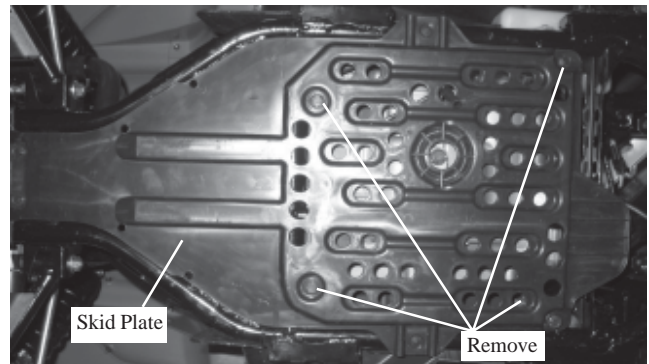

Figure 1
1. Remove the four skid plate bolts, Figure 1. Loosen the front two skid plate bolts, and remove the skid plate from the vehicle.